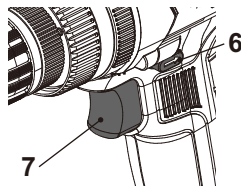

Fig. 17
1. Ensure the forward / reverse rotation control (6) is not on centre lock position.
2. Switch the product on by pressing the on/off switch (7) (Fig. 17).
3. Switch the product off by releasing the on/off switch (7) (Fig. 17).